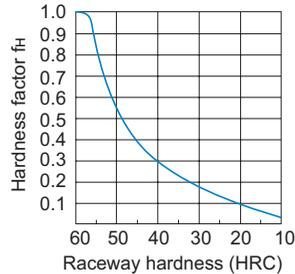

Fig.2 Hardness Factor ( $f_H$ )
Note) Note that if the hardness of the raceway is lower than 58 HRC, the rated loads will be decreased. (See Fig.2 on A-627.)
- $f_H$  : Hardness factor (see Fig.2 on A-627)